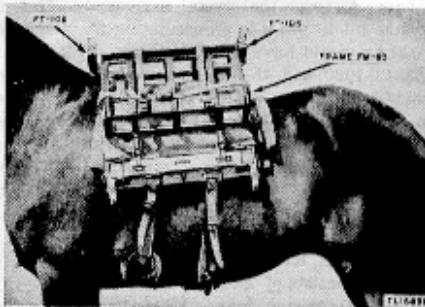

Figure 9.1 Frame FM-83 and Mountings PT-106 installed on the Phillips saddle.
(2) Mounting PT-106. The two mountings are made of aluminum castings and fasten on top of the saddle.
(3) Bag BG-191. Bag BG-191 is made of canvas. In order to balance the load, two Batteries BA-48 are carried in Bag BG-191 instead of the normal position in Bag BG-172.
15.1 Mounting Pack Equipment CE-13 (fig. 9.1) (Added)